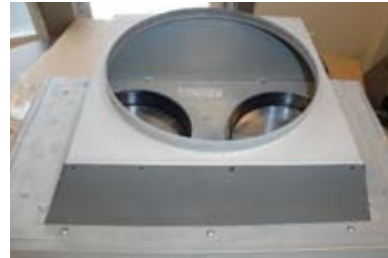

FIGURE 19
6. Install the 2 dampers on top of the hood. If you want one 10" round duct to come out of the top of the hood, use the transition piece (FIGURE 19) that comes with the motor kit and install with four screws. If you want to use 2 separate 6" round ducts, do not use the transition.